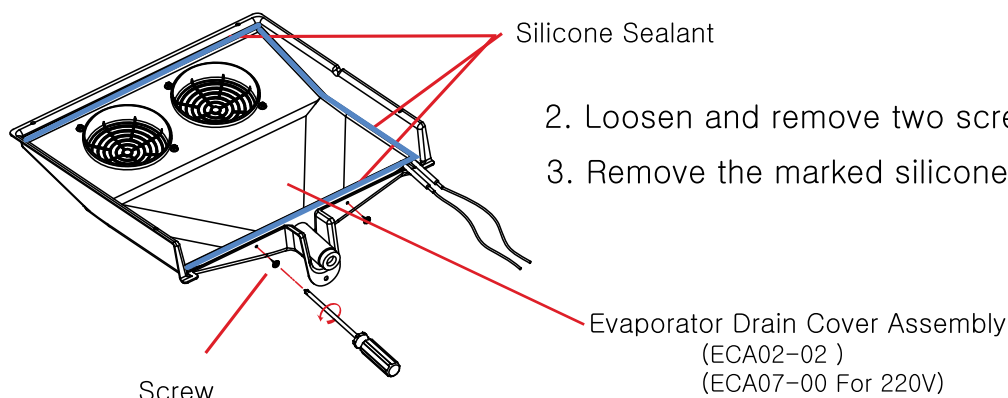

Fig 8-30
2. Loosen and remove two screws. (Fig 8-30)
3. Remove the marked silicone sealant. (Fig 8-30)